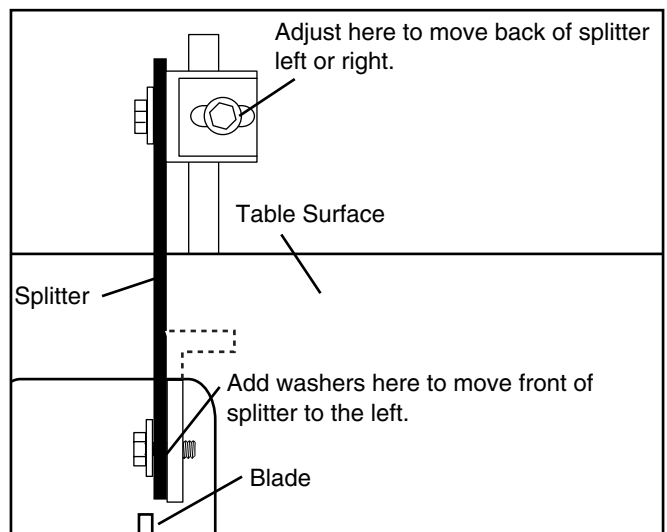
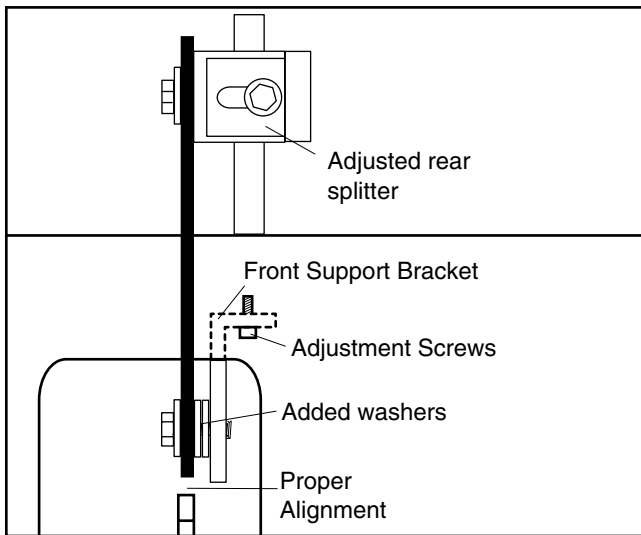

Figure 15. Improper splitter/blade alignment.
Figure 16. Proper splitter/blade alignment.
4. If the blade guard/splitter is to the right of the blade as shown in **Figure 15**, simply add washers between the splitter and front mounting bracket, and adjust the rear splitter support as shown in **Figure 16**.
6. If the splitter is positioned to the left of the blade, alignment cannot be achieved by washer placement. Adjustment of the front support bracket is required as shown in **Figure 16**. Loosen the (2) adjustment screws and move left or right.